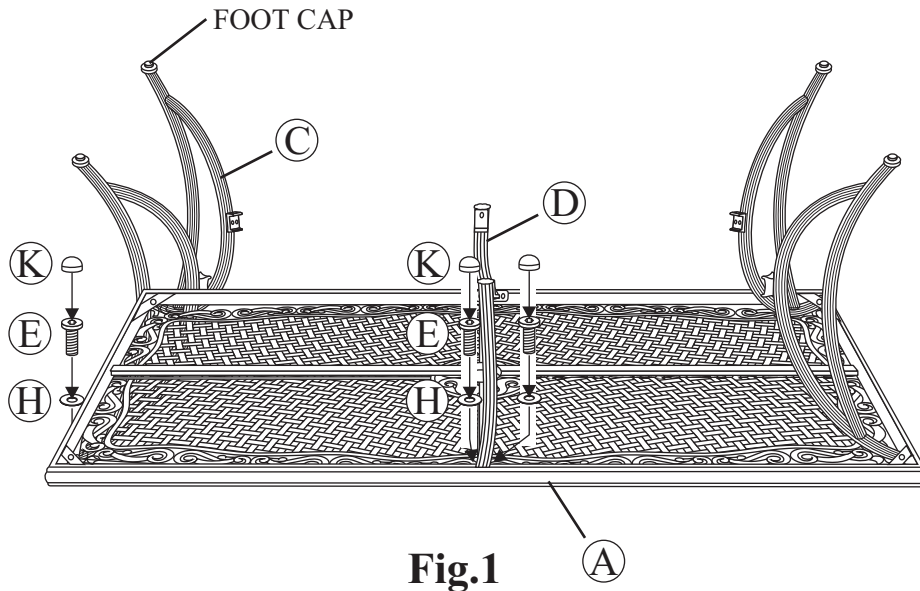

Fig.1
1 **Important: We recommend 2 people work together to assemble the chair.** Note the arrow labels on the "U" bar and the rocker assembly. Also note the horseshoe shape of the rocker plate. Point the open end of the horseshoe away from you. The arrows on the rocker assembly should be pointing towards you. Set the chair frame on the rocker assembly with front of the seat facing you and the arrows on the "U" bar pointing towards you as shown in **Figure 1**. This is very important for a safe, balanced rocking motion. **If chair frame has been properly positioned on the rocker assembly, all arrows on the "U" bar and rocker assembly will be pointing in the same direction.**
- 1 Place the table top upside down on a flat, non-abrasive surface. Attach table leg to table top by using a 1/4"x20 mm bolt and a washer as shown in **Fig.1**. Place the leg beneath the table rim corner bracket. Guide the bolt through the hole in the table rim and into the pre-drilled hole in the table leg. **Hand tighten only**. Repeat for the other three legs. Attach the topside support to the table top by using two 1/4"x20 mm bolts and washers as shown in **Fig.1**. **Hand tighten only**. Repeat for the opposite side.